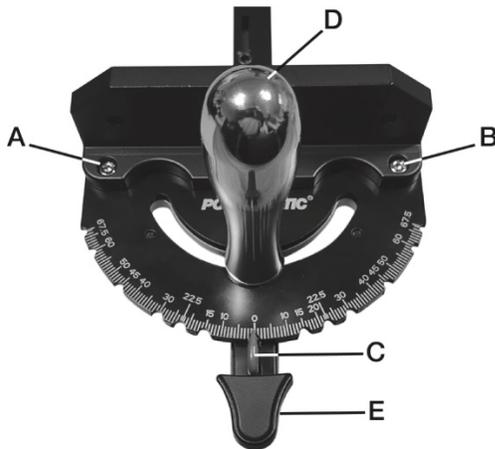

Figure 18C
- Loosen screws A and B as shown in Figure 18C.
## Adjusting Miter Gauge Angle for Operations (model PM1000T, refer to Figure 18C):